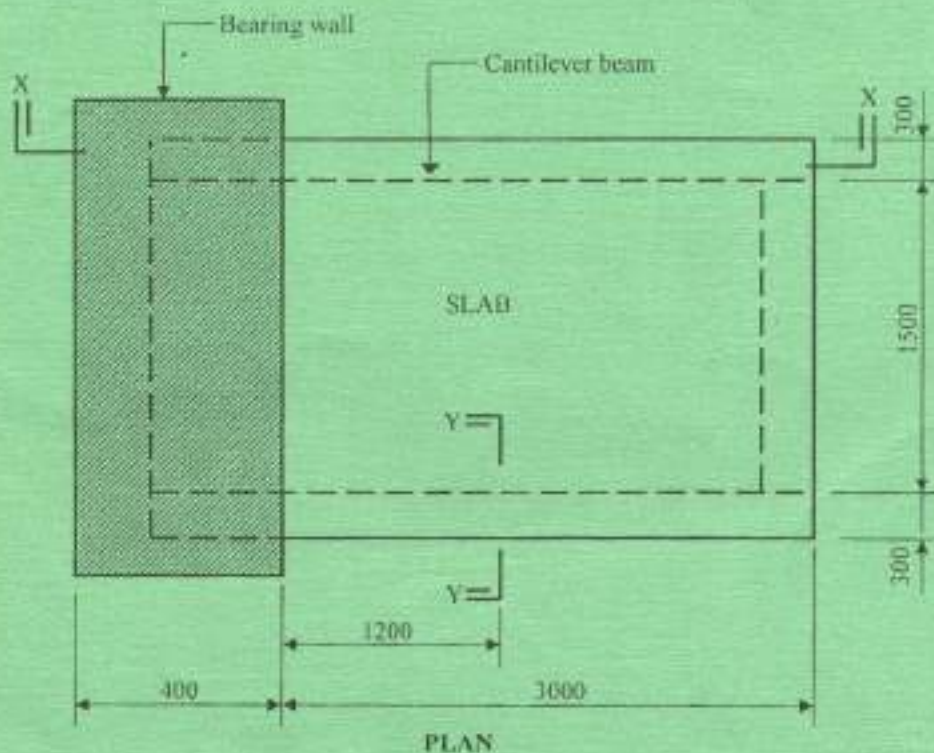

Fig. 2
7. Figure 2 shows a sketch of a cantilever slab. Using the information given below draw to a scale of 1:20: